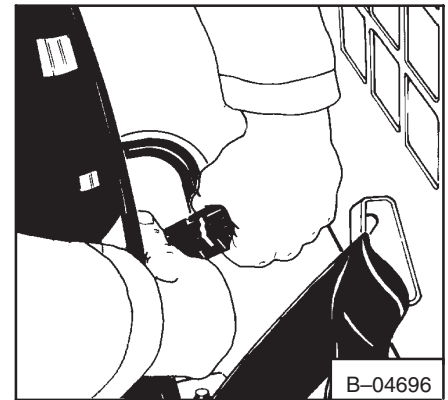

Fig. 6-2 Wire Harness Connector
2. Disconnect the wiring harness connectors behind the seat (Fig. 6-2).
9. Connect the wire harness connectors (Fig. 6-2).